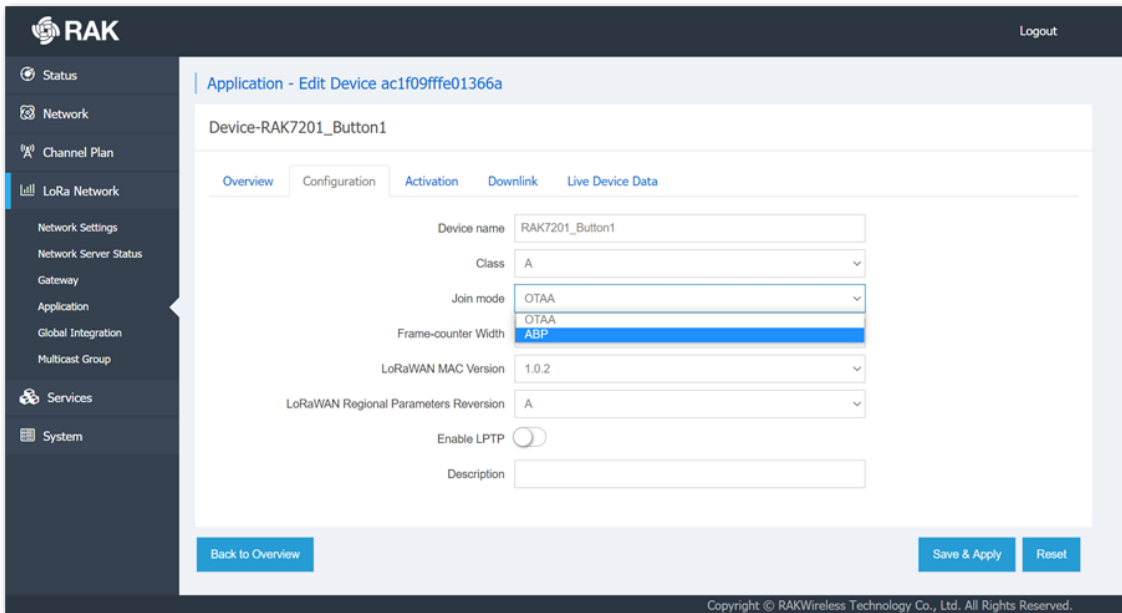

Figure 25: Changing the activation method
1. Go to the Device configuration in the Gateway, as shown in **Figure 25** and select the ABP Join mode from the drop-down menu.